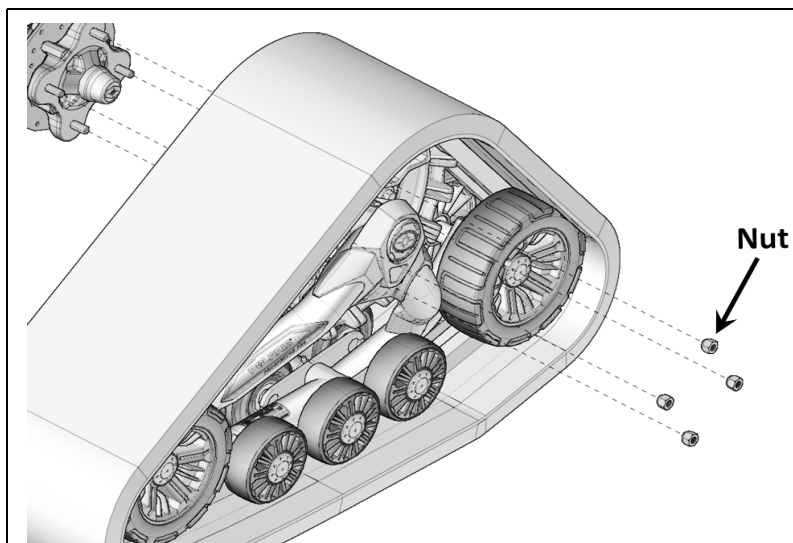

Figure 33
12. Secure the undercarriage to the front hub using the nuts (ref. #26) provided in this mount kit. Figure 33.